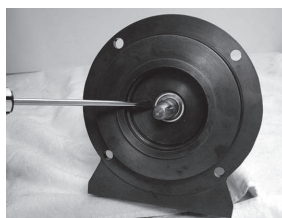

Fig. 6
6. Work the inner seal half off out of the housing carefully with a small flat bladed screwdriver. Break the ceramic with a hammer and screwdriver if necessary to remove. Fig. 6.